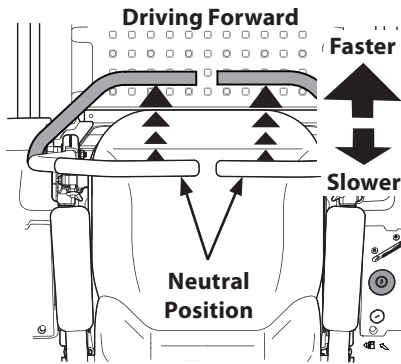

Figure 25
- Slowly and evenly move both drive control levers forward. The mower will start to move forward. See Figure 25.